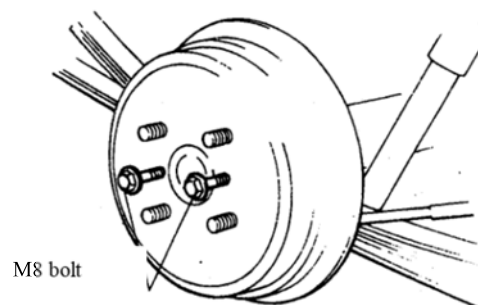

Fig.3.7-4
- 4) Pack out the brake drum by using M8 bolt. (Please Fig.3.7-4)